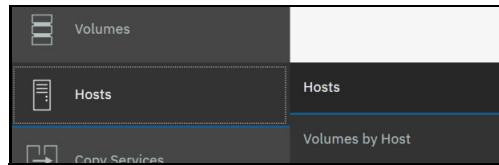

Figure 9-54 Hosts menu in the navigation
2. Select **Hosts** from the menu, as shown in Figure 9-54.
2. Click **Hosts**, as shown in Figure 9-54 on page 266.